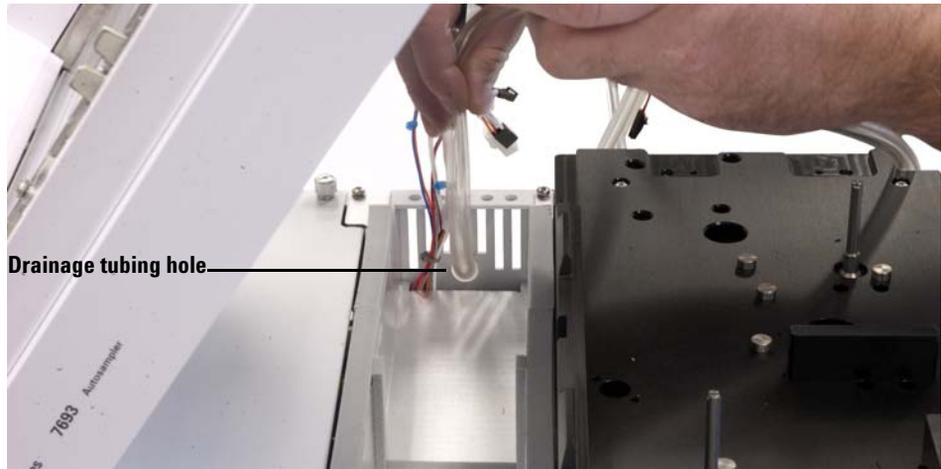

Figure 51 Running the drainage tubing through the hole in the chassis
- 36** Hold the sample tray over the main frame partially in place and run the plastic drainage tube through the hole in the back of the main frame chassis (Figure 51).